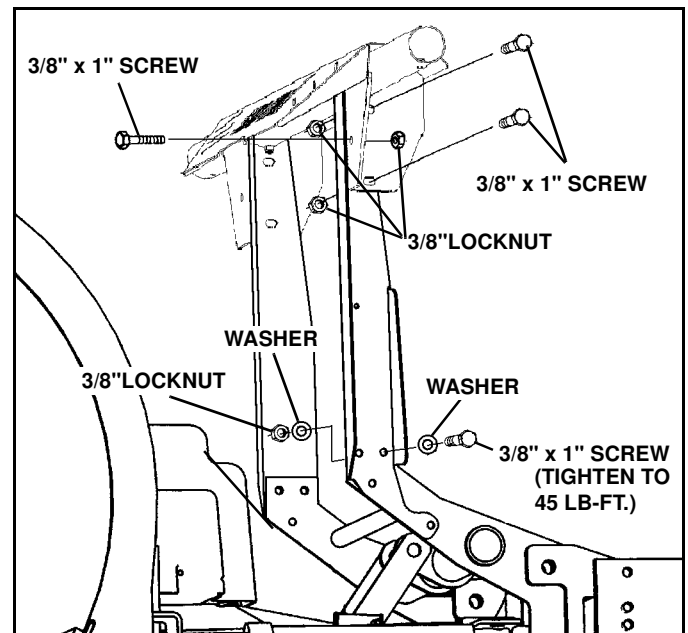

Figure 1-15
11. Remove left and right light support from power pack carton. Secure each light bar support to lift/light bar with (4) 3/8" x 1" screws, (8) washers and (4) lock nuts from the light bar parts bag part number 96106089. Do not tighten at this time. (See Figure 1-15).
12. Secure light bar to supports with (6) 3/8" x 1" screws and lock nuts. Align light bar supports to vertical position and tighten all light bar hardware. Tighten eight lower screws to 45 lb-ft. (See Figure 1-15).